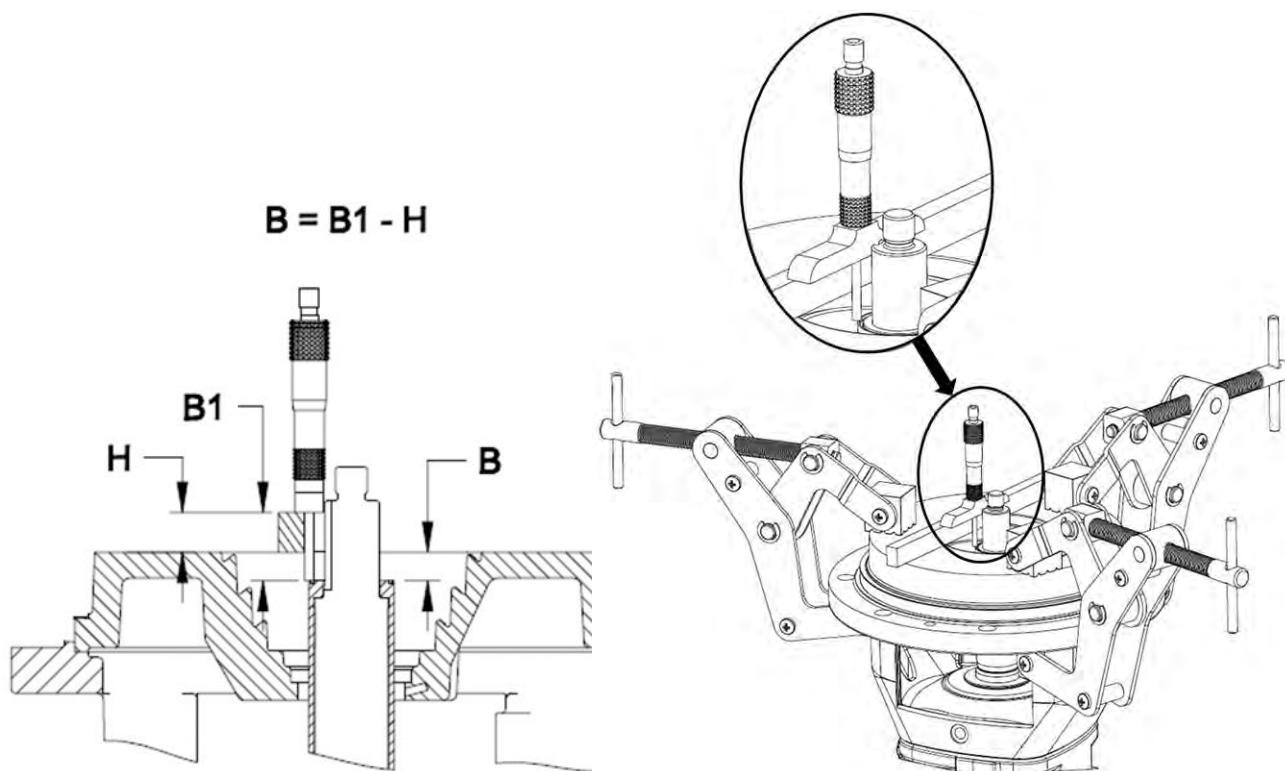

Figure 47: Casing cover to sleeve measurement
23. Place bar (Goulds or Generic) across casing cover (161) as shown in Figure 47: Casing cover to sleeve measurement on page 87, measure top of bar to sleeve (524) shoulder, and record in B1 field.
24. Subtract H from B1 and record in field B ($B = B1 - H$) -- Refer to Figure 47: Casing cover to sleeve measurement on page 87.
30. Once shim(s) combination is determined, install shim(s) (525) and sleeve (222) on the shaft (210), refer to Figure 47: Casing cover to sleeve measurement on page 87.